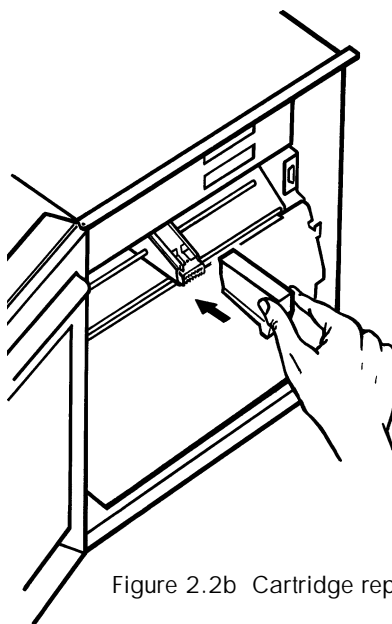

Figure 2.2b Cartridge replacement
3. Unpack the new cartridge and push it onto the carriage as shown in figure 2.2b. Ensure that it is pushed fully home.